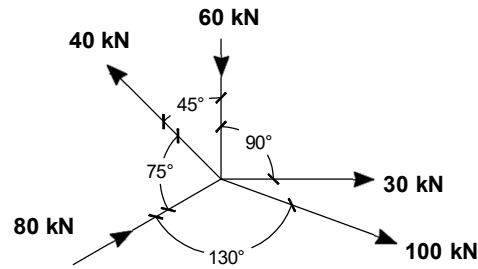

Figure-1
- (c) Obtain the magnitude and direction of equilibrant force for the force system shown in Figure-1.
Let's Solve (From Figure-1):